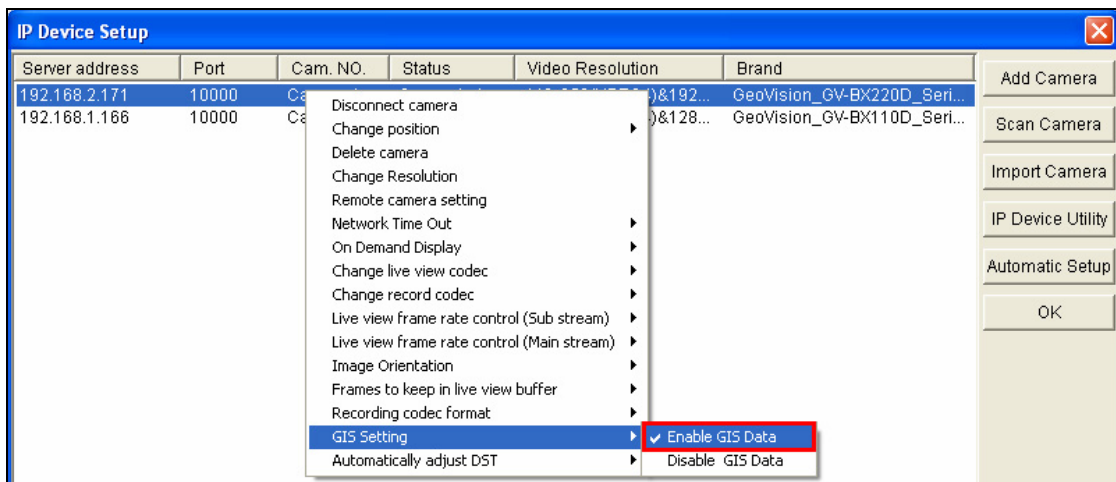

Figure 11-95
- Ensure **Enable GIS Data** is enabled for desired IP devices to receive the GPS data from those IP devices (Figure 11-95).